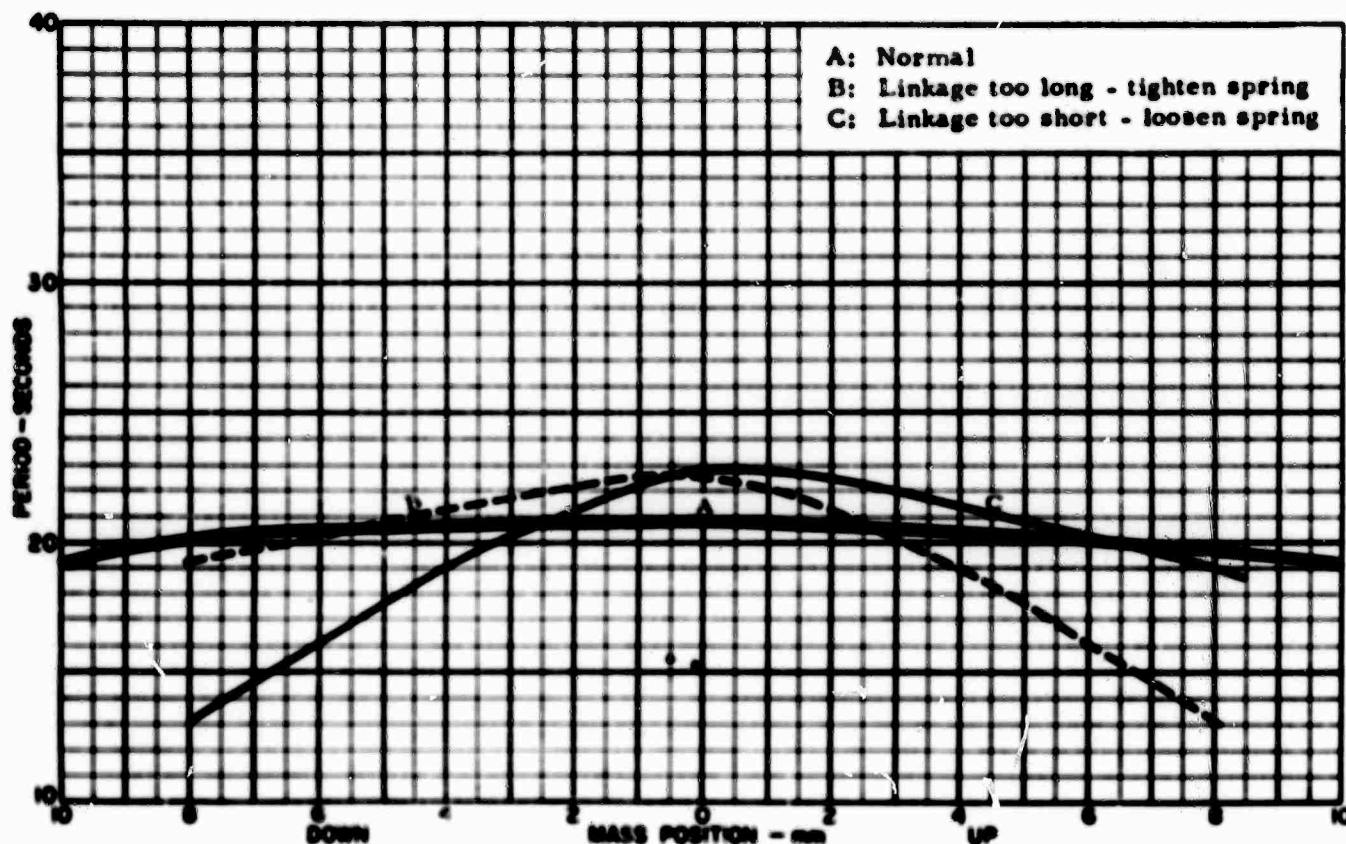

Figure 5-7. Mass Position Vs. Period Graph
- Prepare a graph similar to the one shown in figure 5-7.
f. If the curve is symmetrical as shown by curve A in figure 5-7, the spring mass adjustment is within tolerance and the instrument is properly balanced.
g. If the curve is not symmetrical and appears as either curve B or curve C, adjustment of the spring is necessary as indicated (see figure 5-7).